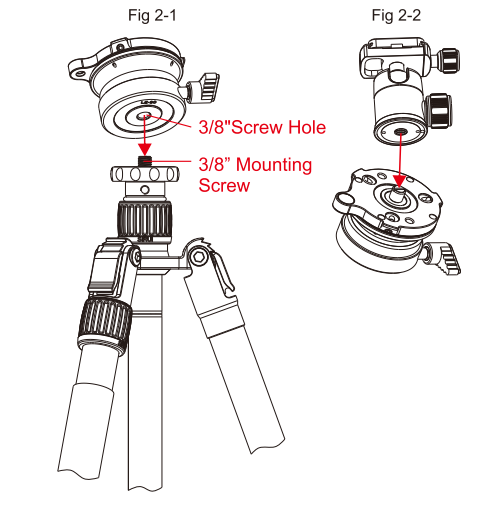

Fig 2-1 Fig 2-2
① Attach the Leveling base onto the tripod as shown in Fig. 2-1, align the 3/8" screw hole of the base with the 3/8" mounting screw of the tripod.